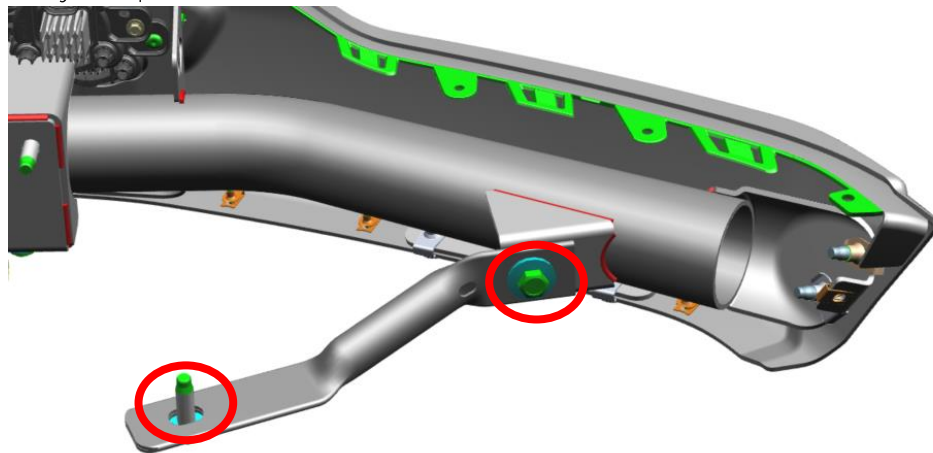

Figure 10 - Passenger Pencil Brace
- a. Install A32B1028/29AA using [2] M10 bolts from step 9 'Front Fascia Preparation' per pencil brace - Fig. 10